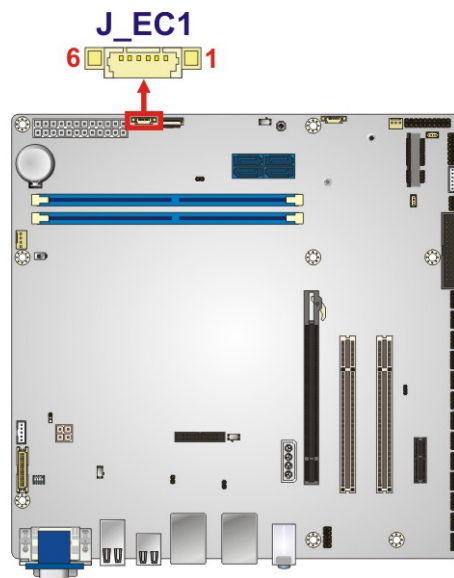

Figure 3-31: SPI EC Flash Connector Location
- CN Location:** See **Figure 3-31**